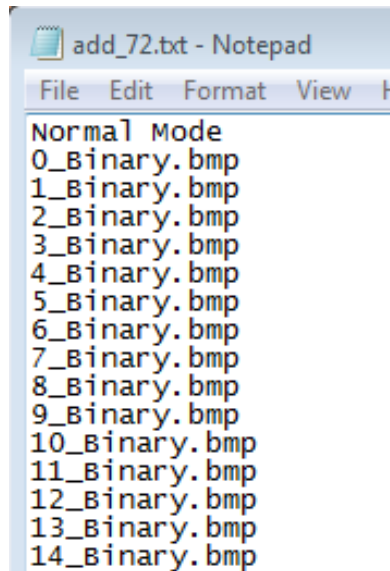
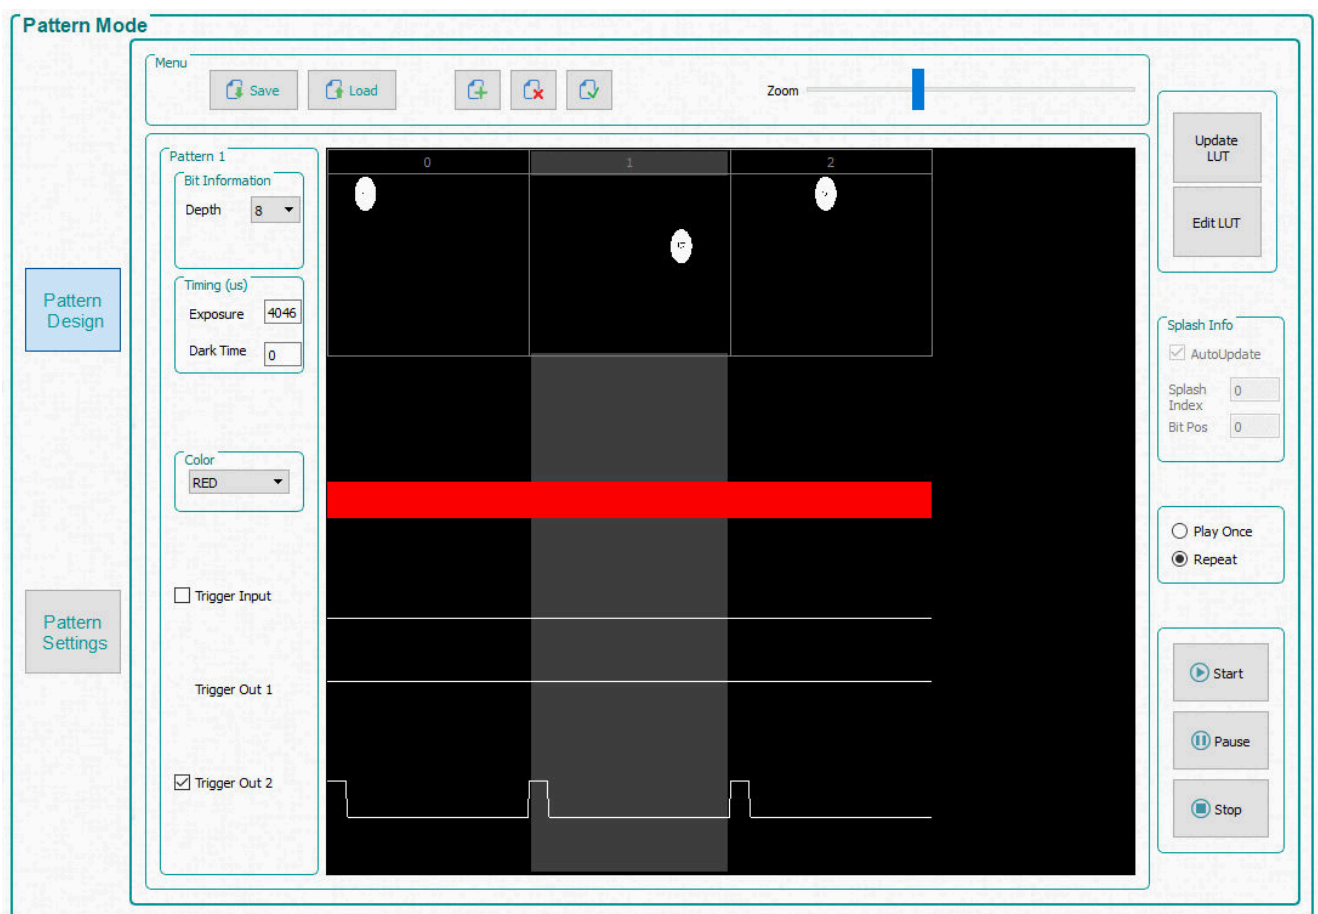

Figure 3-8. Add From List
Figure 3-9. Pattern Sequence
3. Click the *Add Pattern* button in the *Menu* bar and browse for any three bitmap images from the sample of images directory. Be sure to select them from the correct image folder for the EVM that is being used. All three images can be selected at the same time within the open file dialog window. When selecting multiple files at once, the operating system may not load the images in the same order as they were selected. To add images in a predefined order, use the *Load* button. This option loads the images from a text file that contains the file names of each bitmap in the desired order. Alternatively, you can add the images one at a time using the *Add Pattern* button to ensure order. Figure 3-8 shows an example of loading images from a file. The bitmap images must be located in the same directory as the text file. See Figure 3-9 after the images have been added.